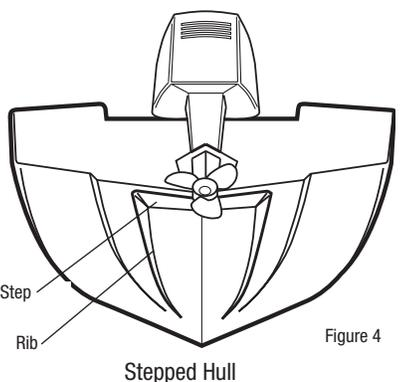

Figure 4
- On boats with stepped hulls, it may be possible to mount the transducer on the step. Do not mount the transducer on the transom behind a step to avoid popping the transducer out of the water at higher speeds; the transducer must remain in the water for the Control Head to maintain the sonar signal. (Figure 4).